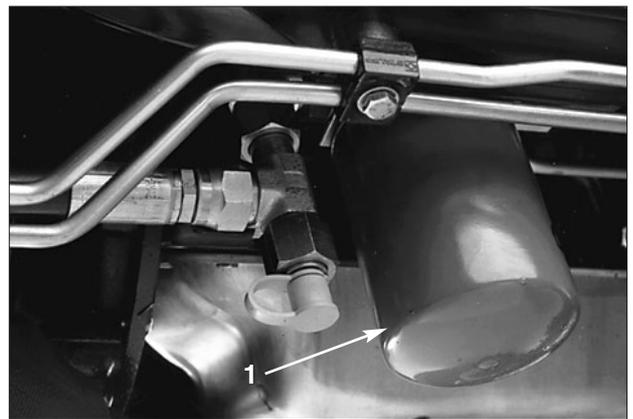

Figure 49
2. Clean the area around the filter mounting area (Fig. 49). Place a drain pan under the filter and remove the filter.